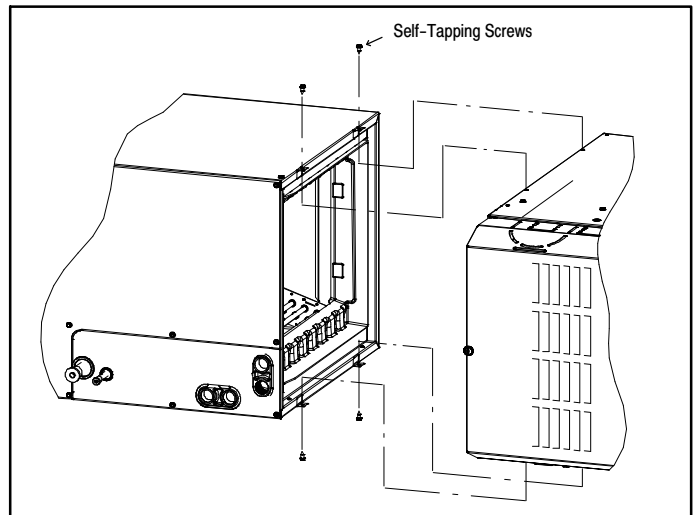

Figure 7 – Horizontal Left Installation
3. Use self-tapping screws to attach furnace. (See **Figure 7**)